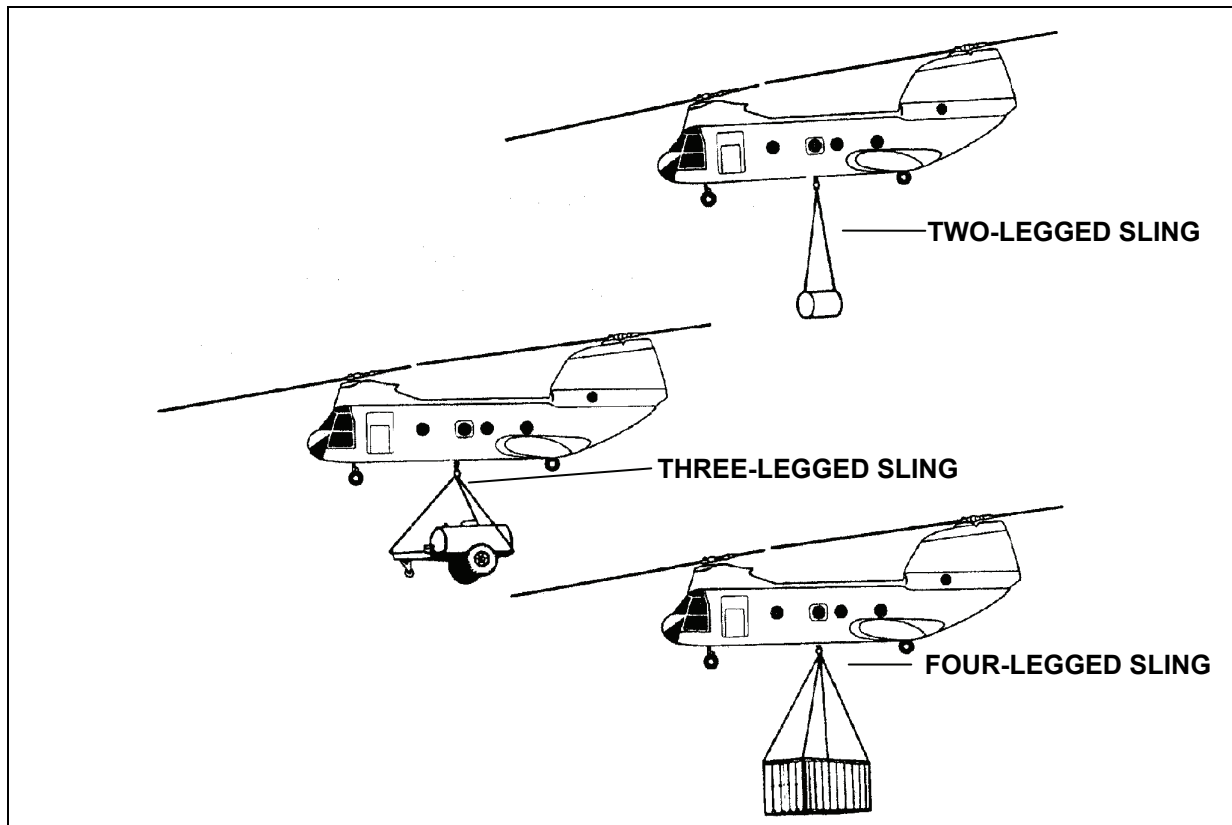

Figure 6-26. Slings with Two, Three, and Four Legs
- **Making the Sling Set Fit the Load.** A complete nylon and chain sling consists of four legs. However, legs may be removed to make a two- or three-legged sling (Figure 6-26). The safe working capacity of a two-, three-, and four-legged sling set is 11,120, 15,000 and 15,000 pounds respectively. The capacity of the multileg sling set is different from other sling sets because of the sling leg design. The six steps for adding or subtracting a sling leg are as follows: